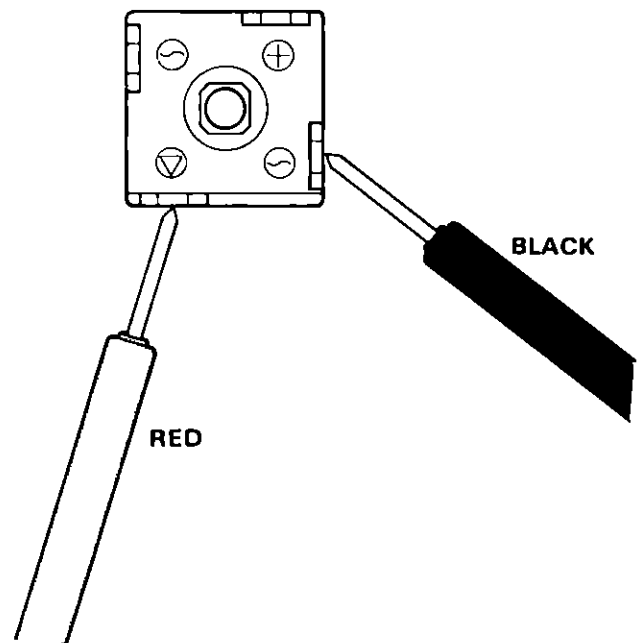

Figure 21. Test #4. Step 3.
- 3 Connect red tester lead to negative (∇) terminal, black tester lead to one "AC" (~) terminal Figure 21